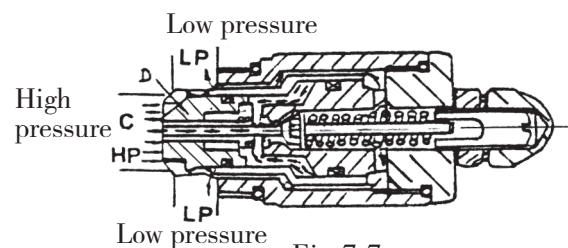

Fig.7.7
(3) As the pilot poppet “E” is opened, the pressure behind the poppet “C” drops, due to which the poppet “C” is moved to seat on the pilot poppet “E”. As a result of this, the oil flowing behind the relief valve poppet, “D” is shut off and the pressure at the inner side is reduced. (See Fig.7.7)